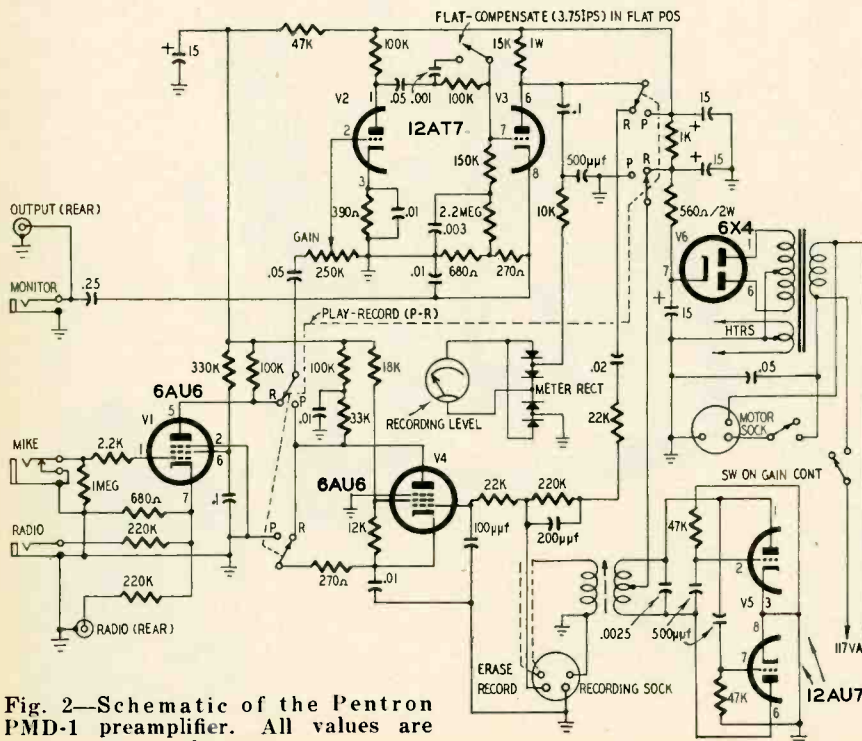
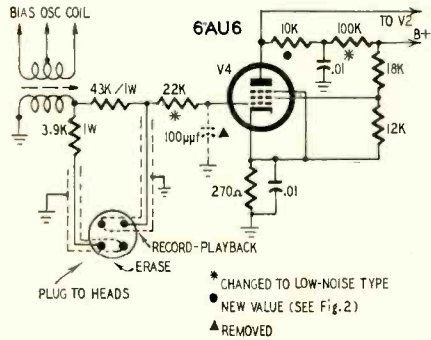

Fig. 2—Schematic of the Pentron PMD-1 preamplifier. All values are shown.
Fig. 3—Schematic of the first stage of the modified Pentron playback circuit.
amplifier (Fig. 2) was tested and found free of distortion. The PMD-1 has a fair amount of degenerative feedback in the form of unbypassed cathode resistors. An oscilloscope check showed no visible distortion in the range of 20 to 15,000 cycles.
lator frequency of 60 to 100 kc. A frequency of 96 kc was obtained by replacing the .0025- μ f capacitor across the primary of the oscillator coil with a .001- μ f ceramic capacitor and turning the oscillator-coil slug nearly all the way out. A change in wiring was required to supply the correct amounts of bias current to the Dynamu erase and record-playback heads. Fig. 2 shows that the original Pentron circuit feeds bias current to the record-play-
back head via the capacitance between the hot lead to this head and that to the erase head. As shown in Fig. 3, separate coaxial cables were run to the two heads, and the correct amount of current to each was supplied through limiting resistors. To minimize capacitance across the record head, Belden 8401 cable, with a capacitance of only 25 μ f per foot, was used to feed signals and bias current from the preamplifier to the record-playback head.
3. *Low-noise resistors.* The plate load and grid resistors of the first stage tubes were replaced by Aerovox type CP $\frac{1}{2}$ Carbofilm low-noise precision resistors (Figs. 3, 5). Also, the 47,000-ohm grid resistors of the push-pull bias oscillator (Fig. 2), which uses a 12AU7,
4. *Hum reduction.* While the preamplifier of the Pentron PMD-1 is good as to hum level, I found that a worthwhile improvement could be made by adding a 60- μ f 450-volt capacitor to the filter circuit at the junction of the 1,000- and 560-ohm resistors (Fig. 2). It was mounted on the small chassis by strapping it to one of the original filter capacitors with a generous amount of tape.